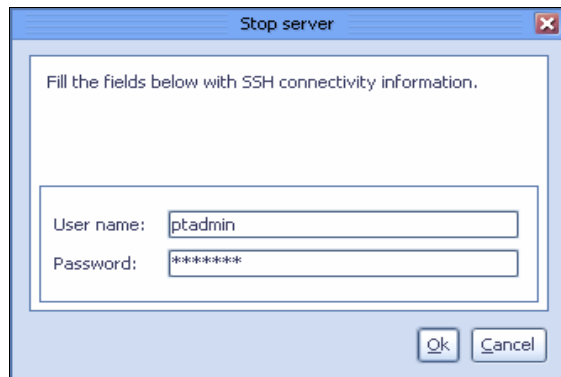

Figure 10-95 Stop server authentication window
3. Click **Stop server**. A window with login information opens (Figure 10-95). This action happens even you are logged in already. Enter the user name and password.